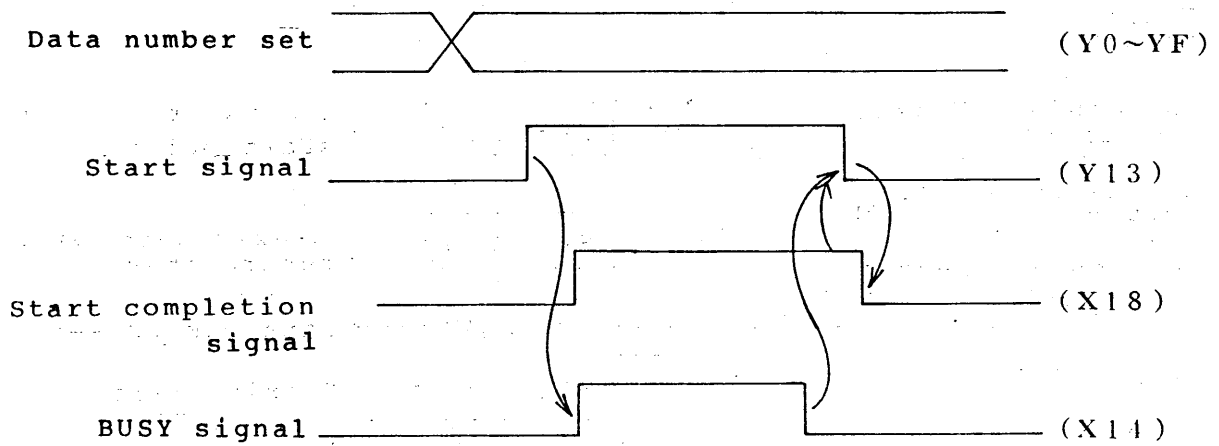

Fig. 11.6 Start operation timing
- (1) With regard to (a) and (c) above, the start will occur only when interpolation start and X-axis start, X-axis zero point return start, and X-axis BUSY are all in the OFF status.
- (2) With regard to (b) and (d) above, the start will occur only when interpolation start and Y-axis start, Y-axis zero point return start, and Y-axis BUSY are all in the OFF status.
- (3) With regard to (e) above, the start will occur only when conditions (1) and (2) above are fulfilled.
- (4) After output of the start signal from the sequencer, the start completion signal is output when the KD71 receives the start signal, and continues to be output until the start signal is OFF.
- (5) Data numbers are set beforehand at D20 for independent X-axis start, D21 for independent Y-axis start, and D22 for interpolation start.
(6) Operation timing at time of start is shown in Fig. 11.6.